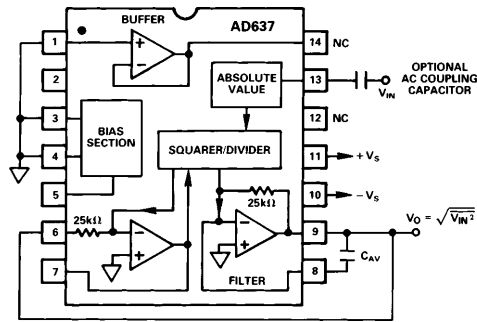

Figure 2. Standard RMS Connection
- 1Accuracy specified 0-7 V rms dc with AD637 connected as shown in Figure 2.
The AD637 is simple to connect for a majority of rms measurements. In the standard rms connection shown in Figure 2, only a single external capacitor is required to set the averaging time constant. In this configuration, the AD637 will compute the true rms of any input signal. An averaging error, the magnitude of which will be dependent on the value of the averaging capacitor, will be present at low frequencies. For example, if the filter capacitor  $C_{AV}$ , is 4  $\mu\text{F}$  this error will be 0.1% at 10 Hz and increases to 1% at 3 Hz. If it is desired to measure only ac signals, the AD637 can be ac coupled through the addition of a non-polar capacitor in series with the input as shown in Figure 2.